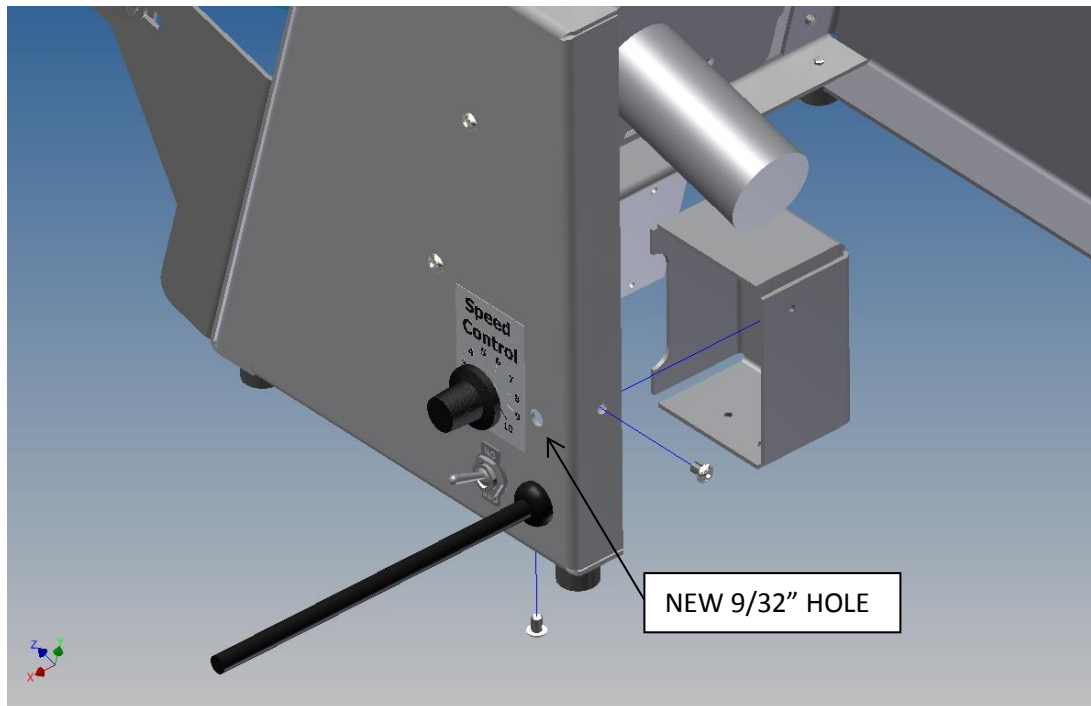

Figure 1 - New 9/32" hole for 1/8" phono receptacle.
1. Drill one 9/32" diameter hole in the right hand end plate near the power switch and speed control knob. The exact location is not critical, see the Figure 1 for suggested location. (New machines shipped after August 2015 have this hole already included and filled with a plastic hole plug. To use the hole in new machines, just remove the plastic hole plug.)